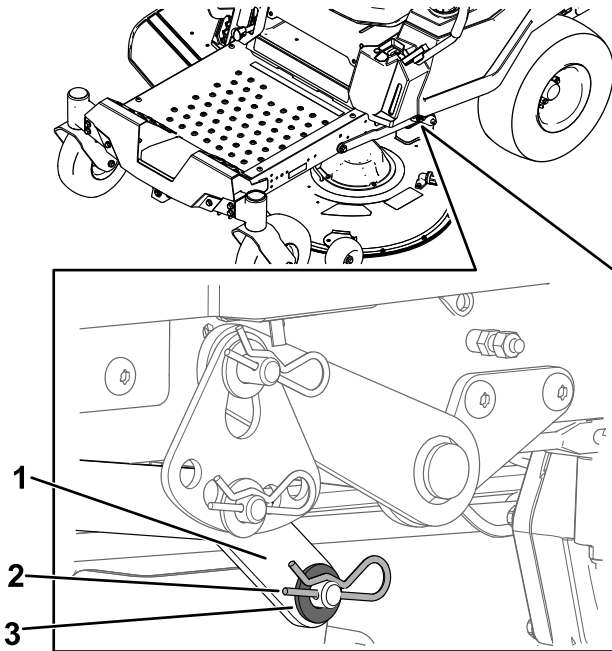

Figure 66
- On 1 side of the machine, remove the washer and hairpin cotter from the deck pin (Figure 66).
- Remove the lift arm from the deck pin (Figure 66).
- On 1 side of the machine, lift the rear of the mower deck and install the lift arm to the deck pin (Figure 66).
- Install the lift arm using the washer and hairpin cotter (Figure 66).